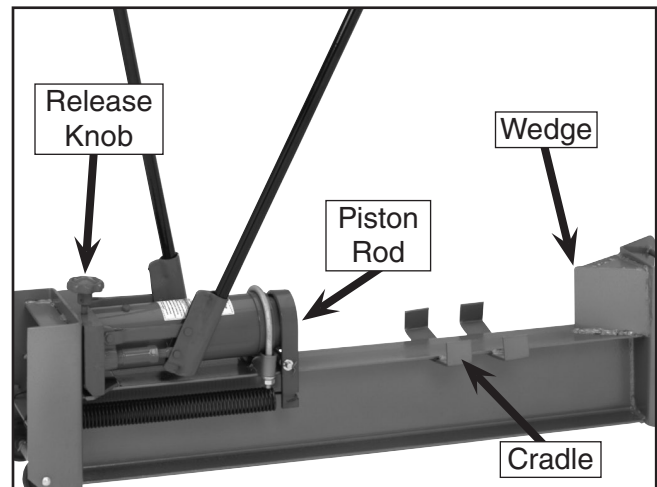

Figure 2. Model H6239 identification.
2. Turn the release knob (**Figure 2**) counter-clockwise to retract the piston rod fully into the cylinder, then turn the knob clockwise.